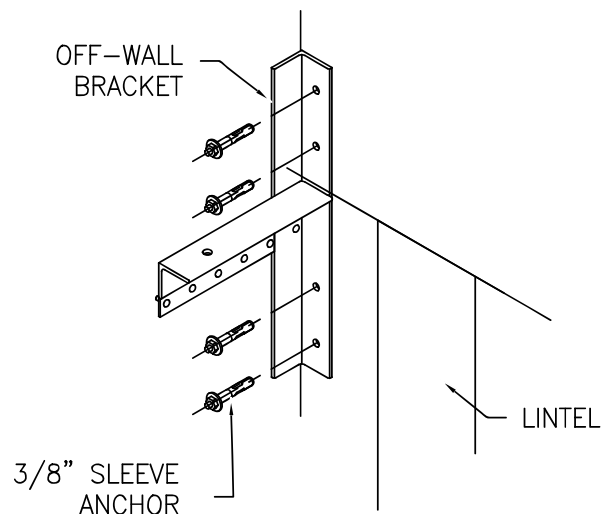

FIG. 4
- Hold off-wall bracket against wall so that outer edge is flush with vertical line, and top of horizontal angle is flush with horizontal line (Fig. 4).
- Insert 3/8" sleeve anchors and tighten with 1/2" socket driver bit (Fig. 4).